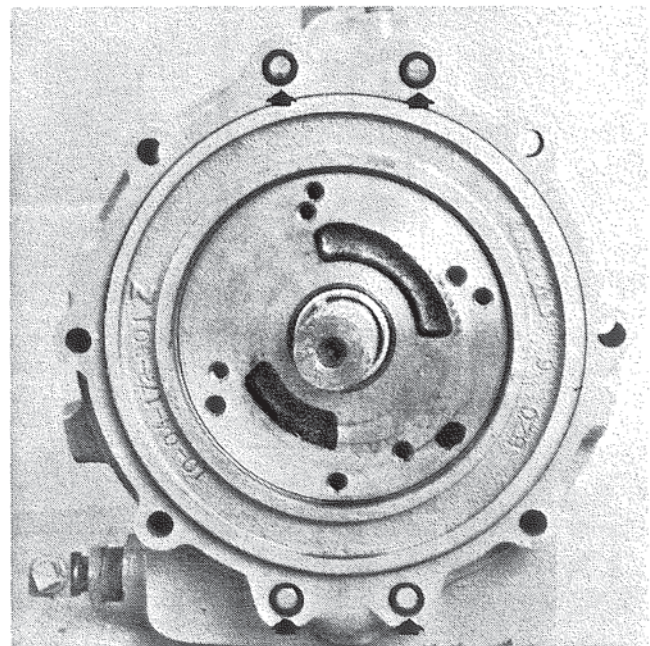
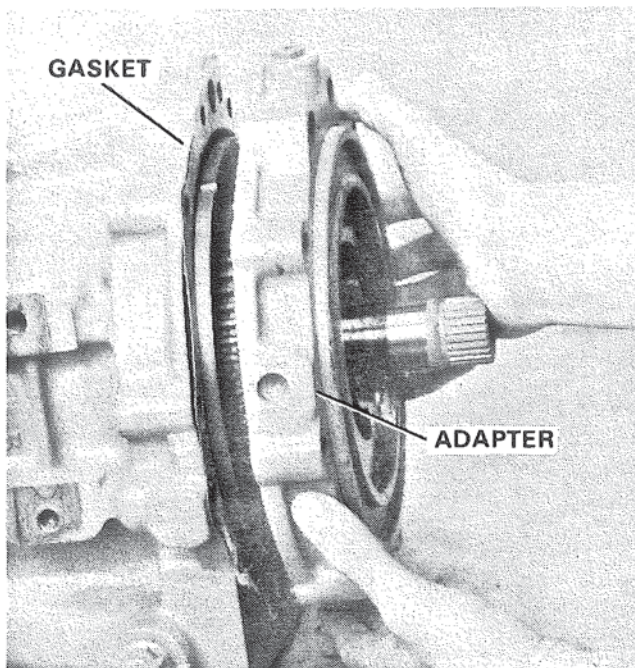

Figure 13. Removing Adapter from Case.
Figure 14. Removing Adapter and Reverse Clutch Assembly from Case.
1. Remove the four (4) cap screws (12 point head). Figure 13. Lift off adapter and reverse clutch piston. Figure 14. If necessary, tap the adapter with a soft hammer to remove.